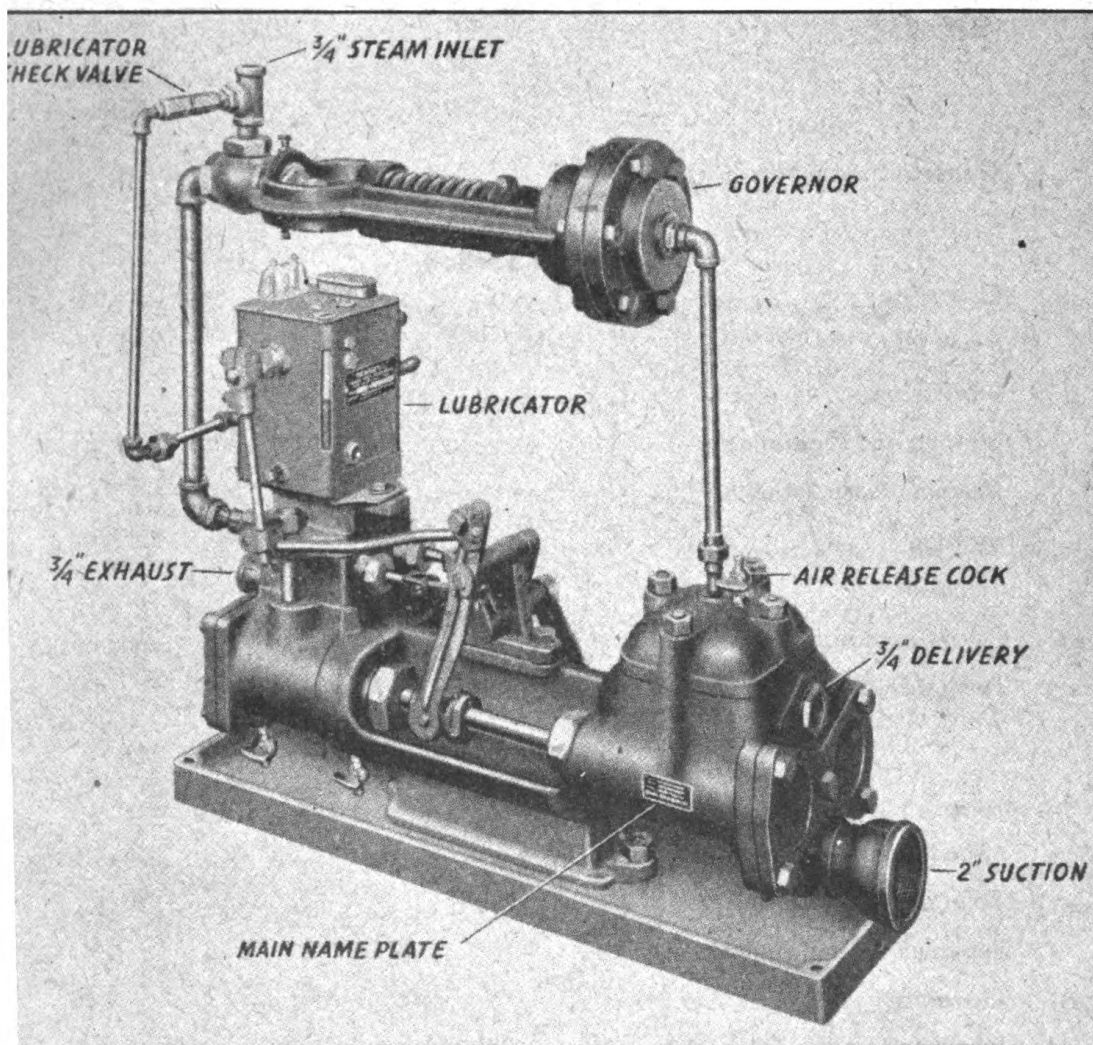
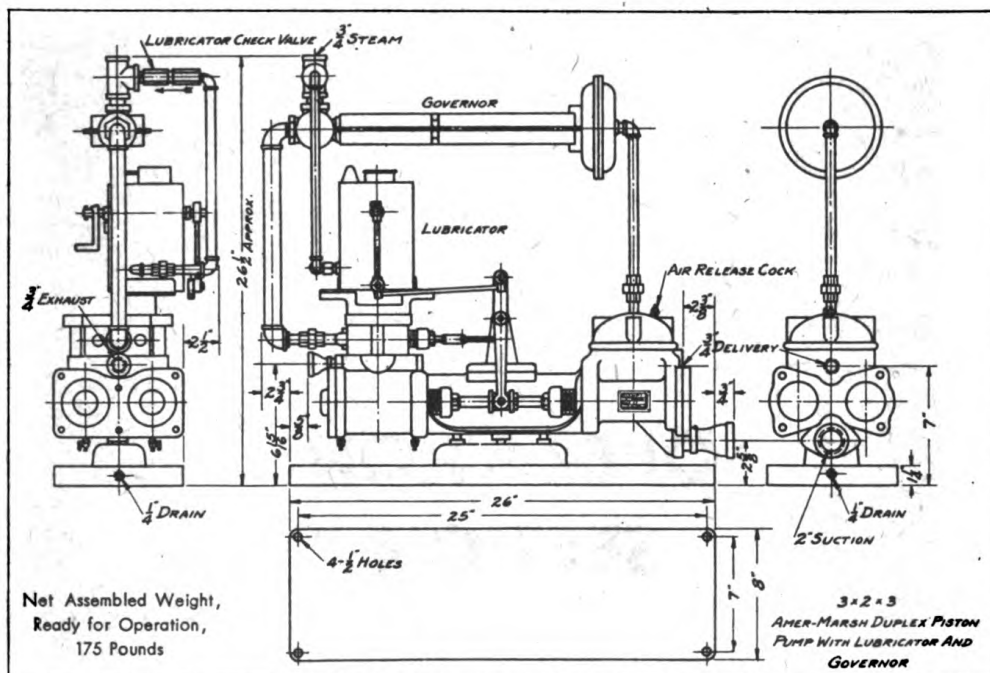

Fig. 1—Complete Unit Assembly
Fig. 3—General Dimensions
2. The **Mechanical Lubricator** is as shown in figure 1. Lubricator is of the mechanical piston type and is adjusted in relation to the stroke of the pump so that sufficient lubrication is forced into the governor and down to the steam valve, piston and other internal parts.
3. The **Governor** is as shown in figure 1. Its purpose is to maintain the discharge pressure on the fluid end by automatically regulating the steam pressure admitted to the steam cylinder.
Unit nameplate is located on the right-hand side of the fluid cylinder, as viewed when facing the steam end, looking toward the fluid cylinder. See fig. 1.
General description of this machine is given on page 1. Its component assemblies and their location in relation to the pump proper are shown in figure 1. General dimensions are shown below (fig. 3).